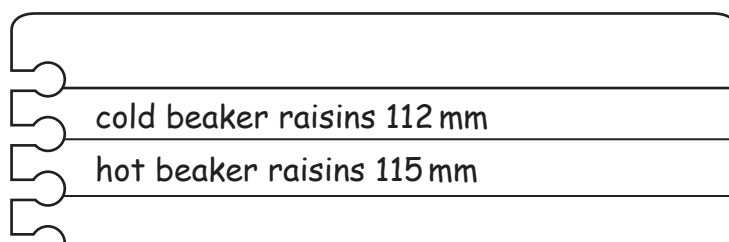

Fig. 1.2
- Step 7 A second group of 10 raisins was lined up along the ruler, each touching end to end. The length of the line was measured and recorded. Fig. 1.2 shows the measurements the student recorded during step 4 and step 7.
- recording the measurements shown on the notebook in Fig. 1.2